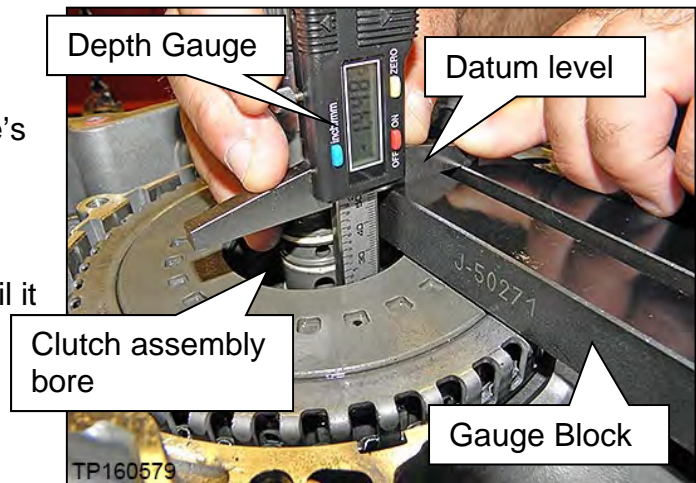

Figure 116
- c. Position the Depth Gauge on the Gauge Block (Figure 116).